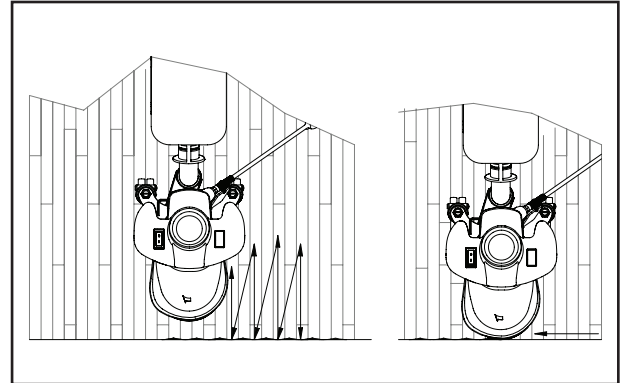

Figure 7.1
5. Lower the sanding disc to the surface and begin sanding. Do not press down on the handle while sanding. Doing so will promote objectionable scratches and an uneven finish. Depending on technique and desired results, use one or a combination of the two methods shown in figures 7.1 and 7.2.